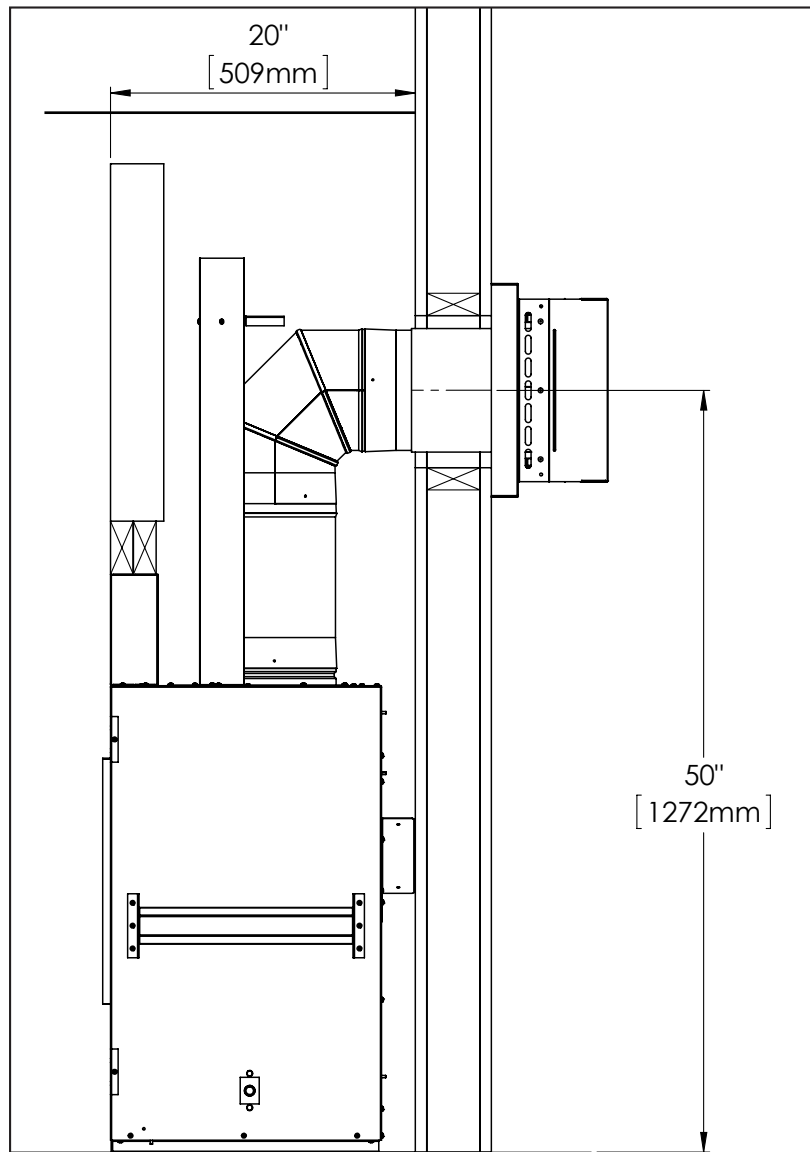
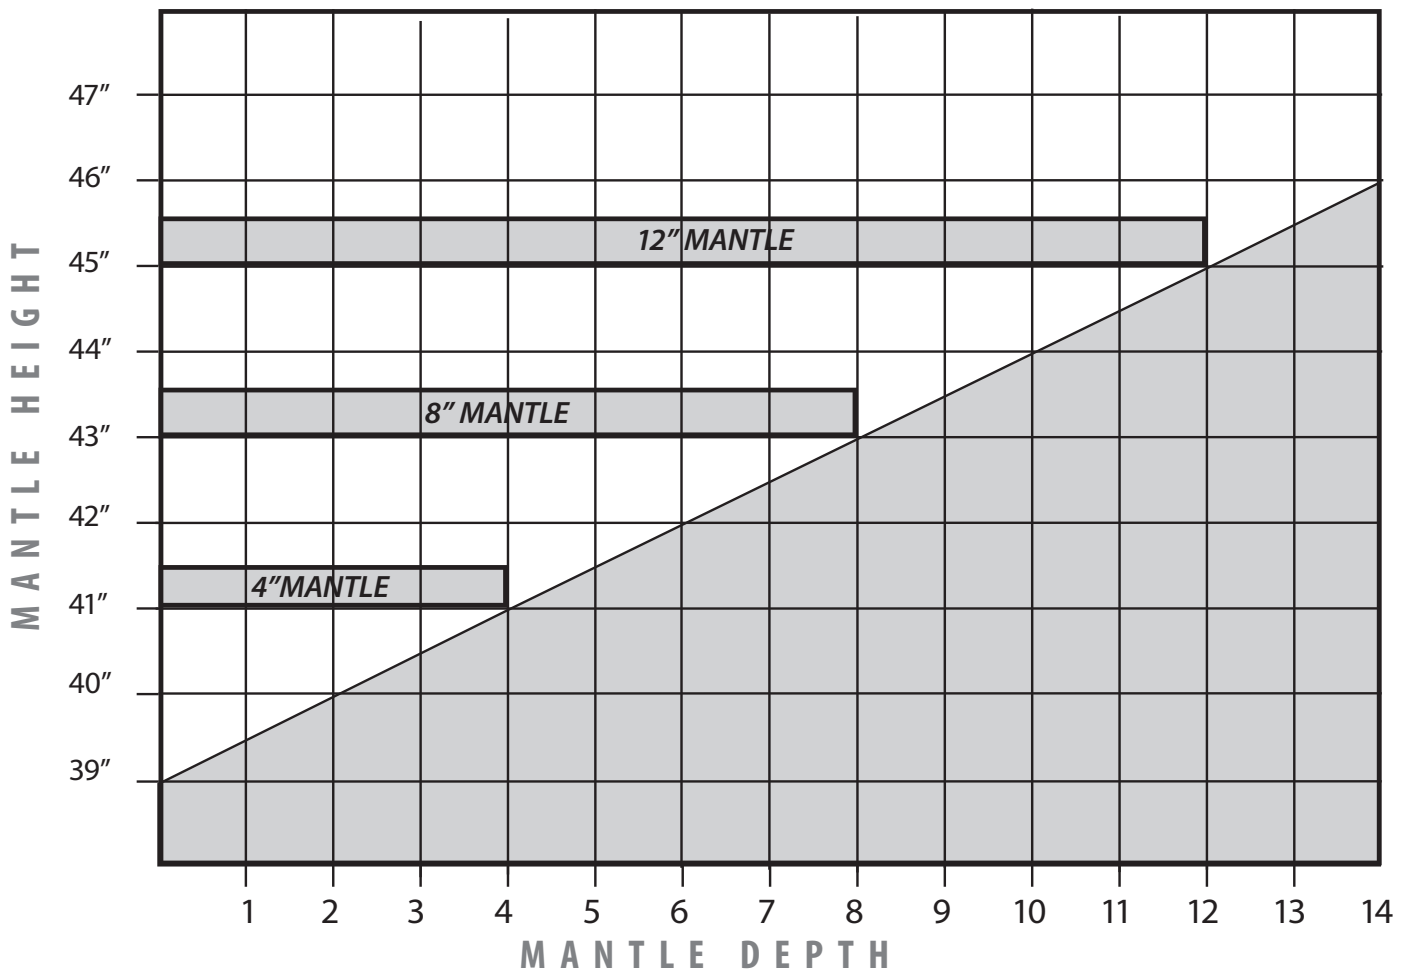
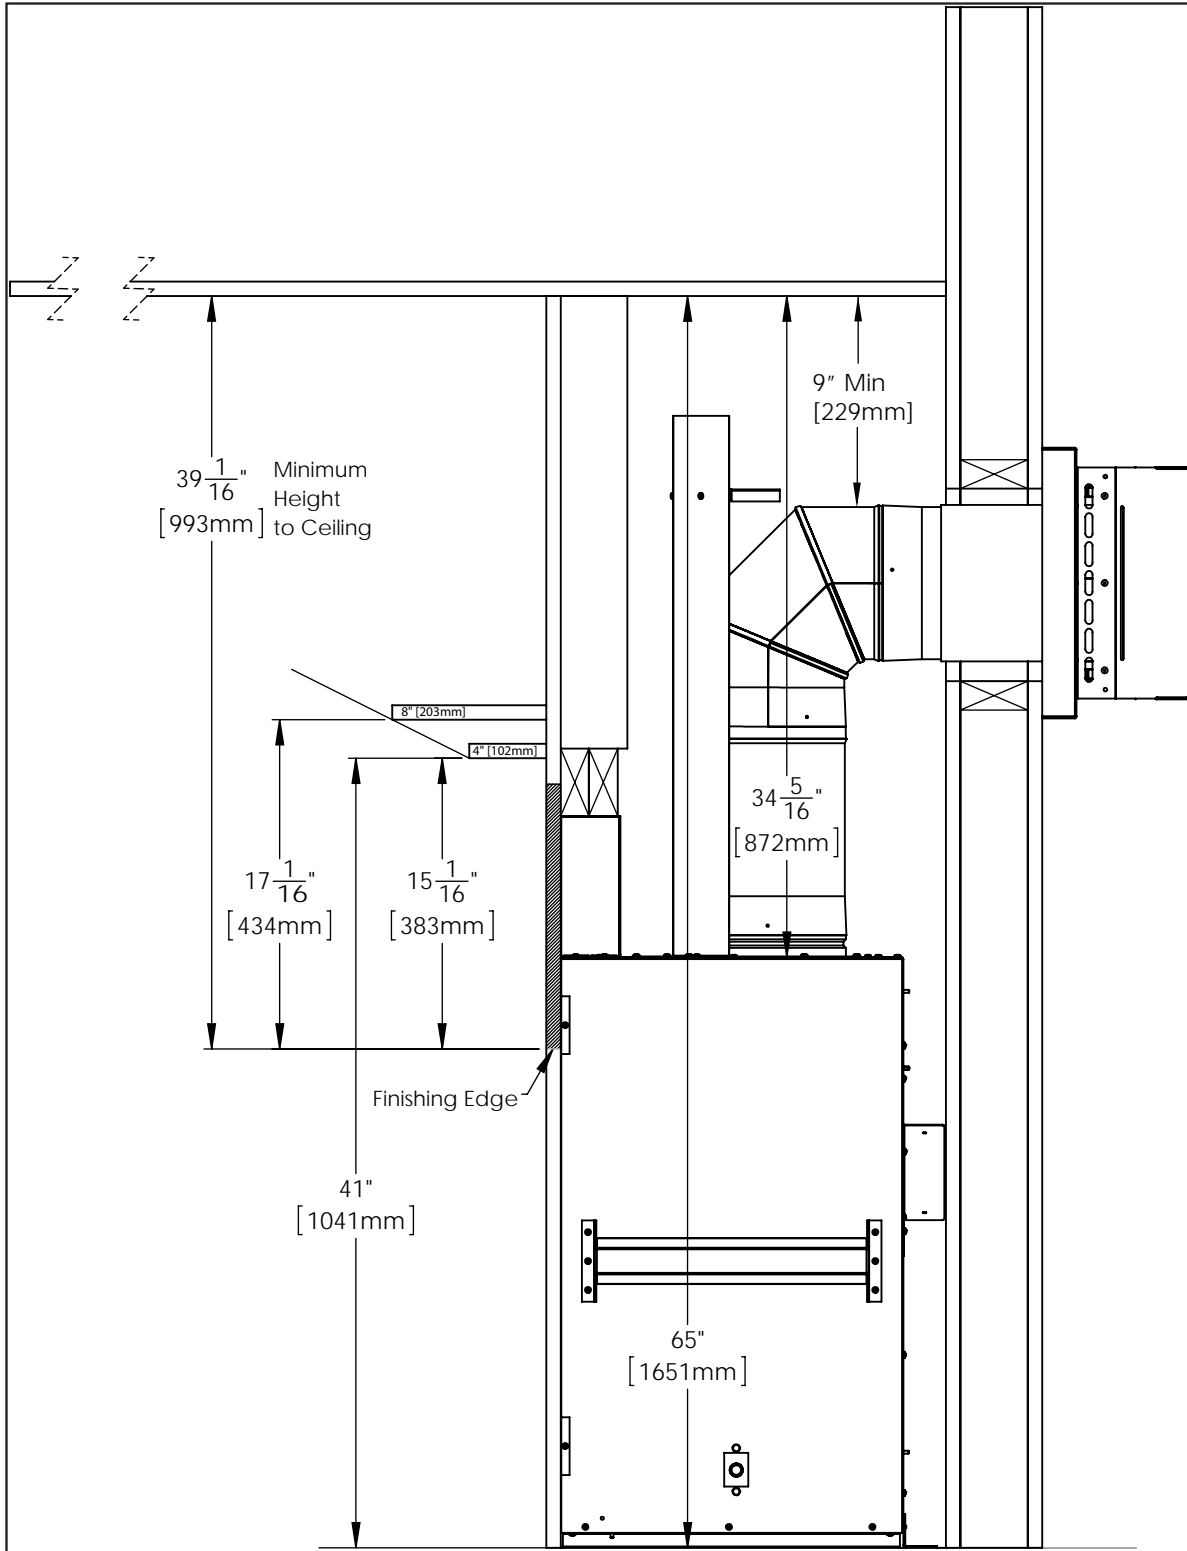
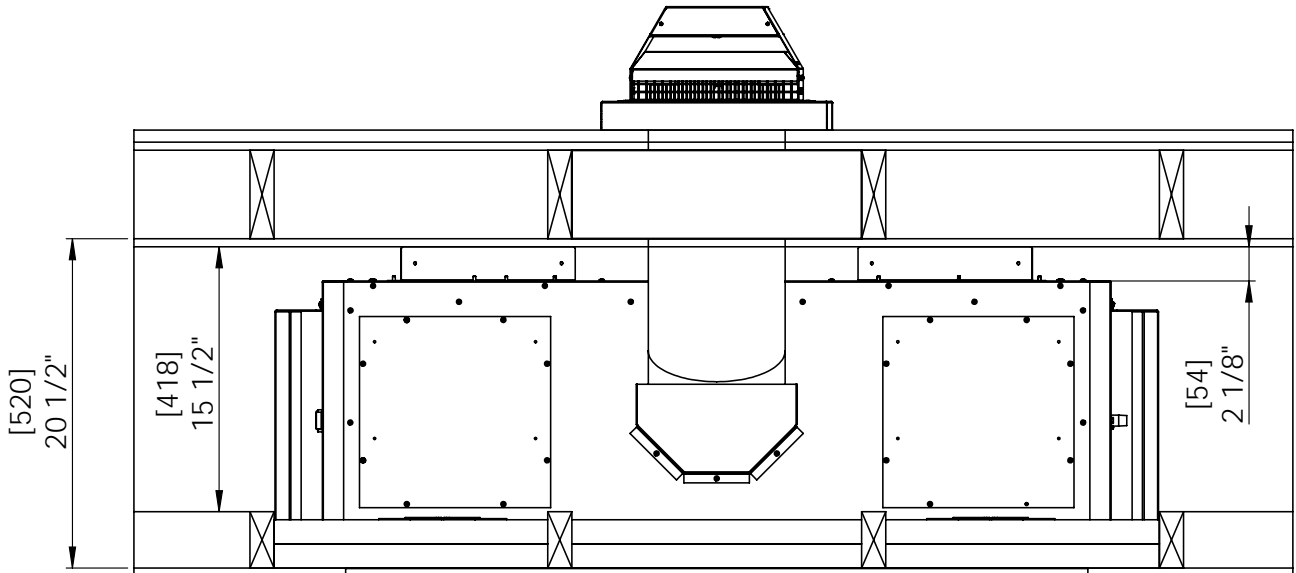

Figure 33: Minimum Horizontal Venting
Figure 34: Minimum Mantel Height
Figure 35: Install Dimensions with Mantel
Figure 39: Dimensions for a Horizontal Installation
Minimum venting is shown in Figure 33. The framing height to the center of the thimble is 50". Minimum venting must include a 12" vertical section and a 90 degree elbow which is then terminated horizontally.
Refer to Figure 34 & Figure 35 for a combustible mantel installation, measurement is from bottom of the unit to the bottom of the mantel. See Figure 33 for more clarity.
If adding a mantel to the C341 / C341D please note the critical dimensions shown in Figure 35. These are minimum dimensions as per certification and must be followed.
Figure 39 shows a horizontal vent installation with minimum clearances. The horizontal vent shield must be used when the minimum vent configuration is used. If more than 12" of vertical rise is used the shield should not be installed. The vent to ceiling clearance must be maintained no matter the additional vertical vent height; see Figure 35 and Figure 36. A minimum of 1" clearance on all sides of the vent pipe must be maintained at all time unless specifically stated.
**MANTLE:** It is not necessary to install a mantle, but if one is desired the guidelines as shown in Figure 34 & Figure 35. The minimum clearance from the side of a mantle to wall is 4".